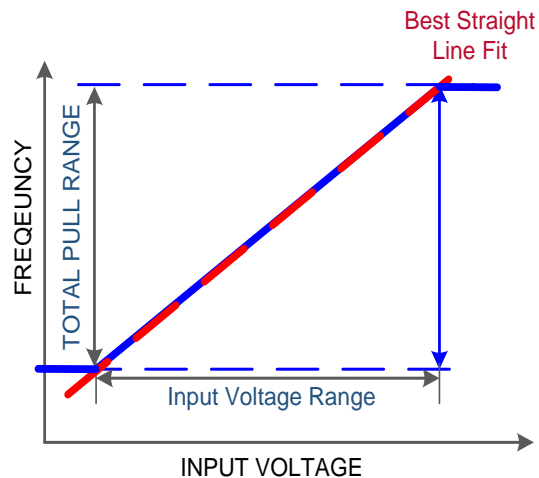

Figure 50. Typical SiTime VCTCXO Linearity
In any VCTCXO, there will be some deviation of the frequency-voltage (FV) characteristic from an ideal straight line. Linearity is the ratio of this maximum deviation to the total pull range, expressed as a percentage. Figure 50 below shows the typical pull linearity of a SiTime VCTCXO. The linearity is excellent (1% maximum) relative to most quartz offerings because the frequency pulling is achieved with a PLL rather than varactor diodes.